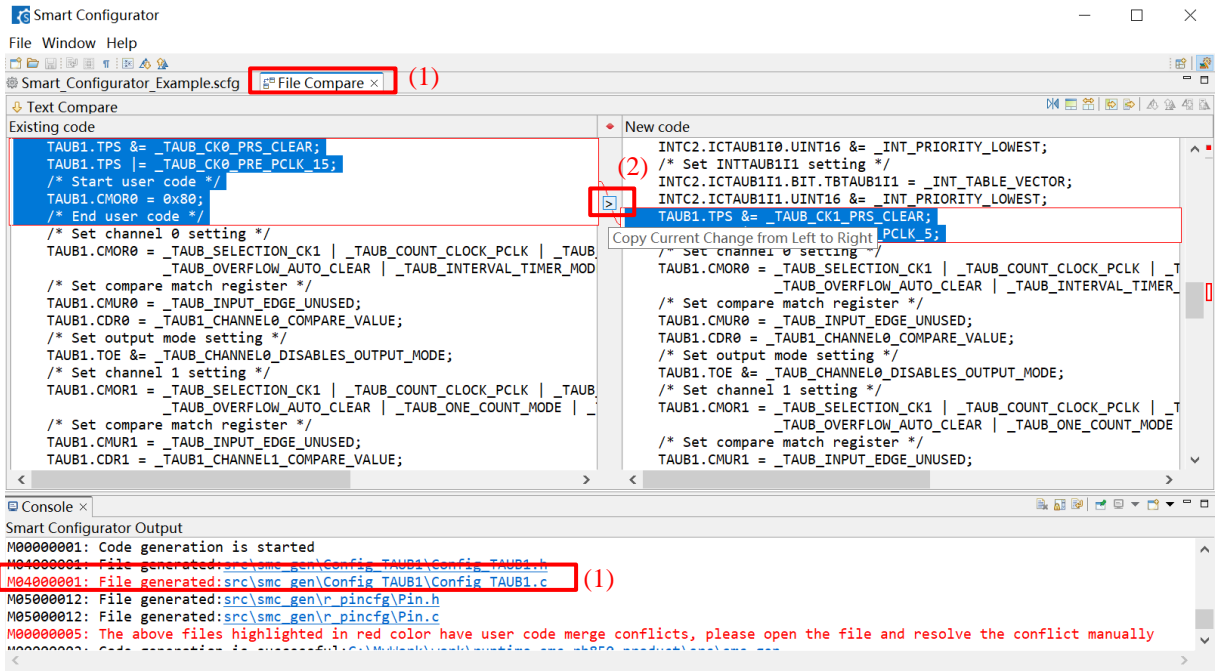

Figure 10-5 Code before resolving conflict
- 1) Click on the conflicting file in the console to open the “File Compare” view (Figure 10-5 Code before resolving conflict).
- 2) Click on “Copy Current Change from Left to Right” (Figure 10-5 Code before resolving conflict).